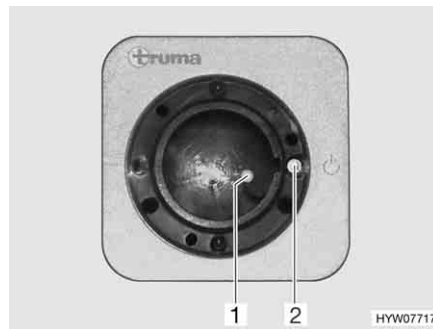
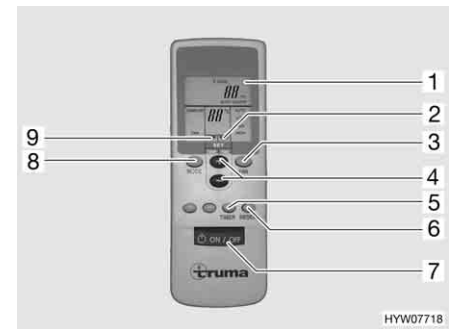

Fig. 163 Receiver
Fig. 164 Remote control
- Switch on the remote control with the switch (Fig. 164,7). The green indicator lamp (Fig. 163,1) indicates cooling mode.
- Set the desired operating mode with the key (Fig. 164,8).
- Set the desired fan output and room temperature with the keys (Fig. 164,3 and 4) if necessary. The arrow (Fig. 164,9) indicates the selected setting mode.
- ▷ An additional key switch (Fig. 163,2) is on the receiver, which can be used to switch the air conditioning unit off or on without remote control. If the air conditioning unit is switched on by means of this key switch, the operating mode set last on the remote control is automatically selected.
- ▷ To switch off, press the key (Fig. 164,7) on the remote control again.
- To program, switch on the air conditioning unit with the key (Fig. 164,7) on the remote control.
- Set the desired operating mode and room temperature with the keys (Fig. 164,8, 3 and 4).
- Use the key (Fig. 164,5) to select the desired function (Fig. 164,1):
- Use the keys (Fig. 164,4) to select the desired switching time (1 to 15 hours). The arrow (Fig. 164,2) flashes and indicates the setting mode.
- ▷ The key (Fig. 164,6) is used to send the settings of the remote control repeatedly to the receiver.